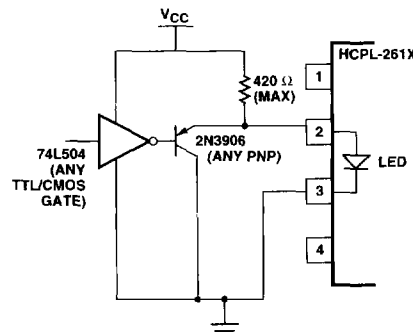

Figure 22. TTL Interface Circuit for the HCPL-261A/-261N Families.
1. Use of drive circuits where current is shunted from the LED in the LED "off" state (as shown in Figures 22 and 23). This is beneficial for good CMR_H .
Using any one of the drive circuits in Figures 22-24 with $I_F = 10$ mA will result in a typical CMR of 8 kV/ μ s for the HCPL-261N family, as long as the PC board layout practices are followed. Figure 22 shows a